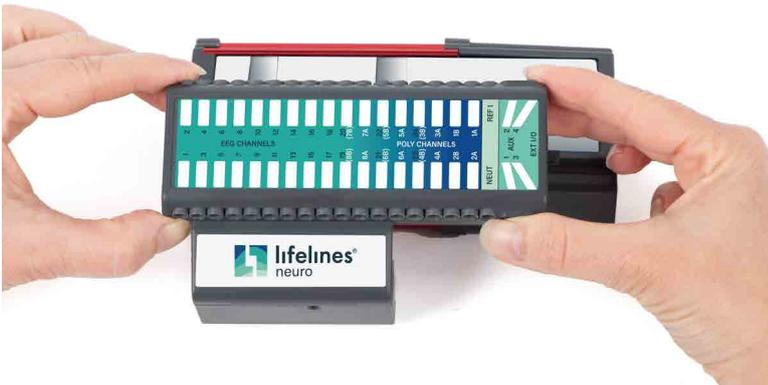

Figure 14: Lift the PCU away from the Trackit Mk3
- 5 Position the PCU above the Trackit Mk3 as shown above in Figure 14 and lower it down ensuring that the two tabs locate fully into the slots in the top of the Trackit Mk3.